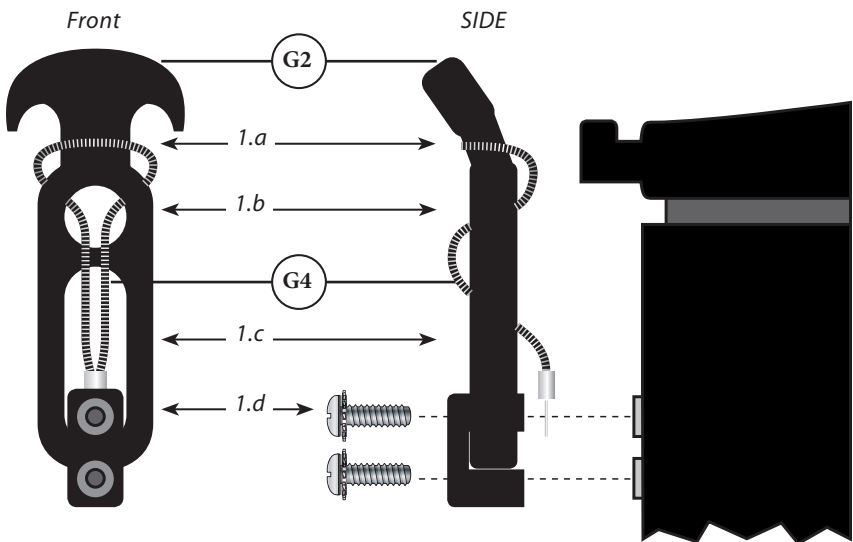

FIG. 1
Thread the Wire Loops (G4) through the Rubber Latches (G2) and secure to the Dust Bin (B) as described in the steps below to ensure proper static grounding [FIG. 1].